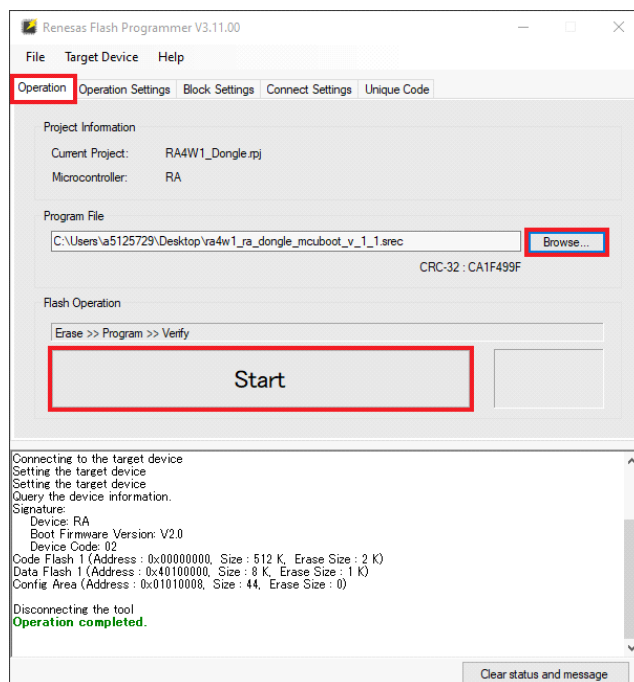

Figure 8. Selection of the Program File
7. Select the **Operation** tab and click on the **Browse...** button (Figure 8). In File Explorer, navigate to the location of the bootloader binary file (.srec), select it, and click the **Open** button. Click the **Start** button to download the file into the code flash memory.